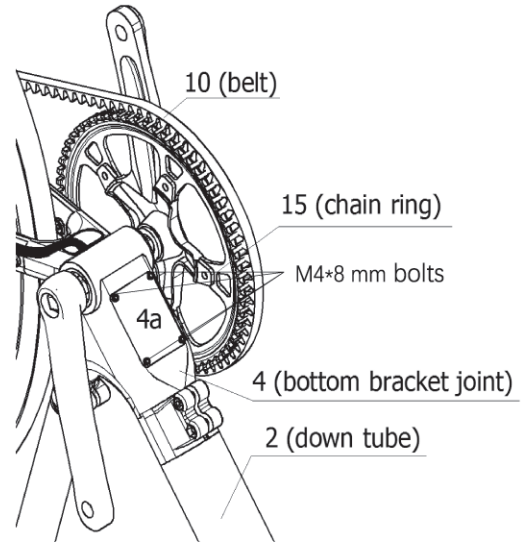

Figure 37-2.
d. Use a 3 mm Allen key to fix cover 4a on Part 4 with four M4\*8 mm bolts, as shown in Figure 37-2.